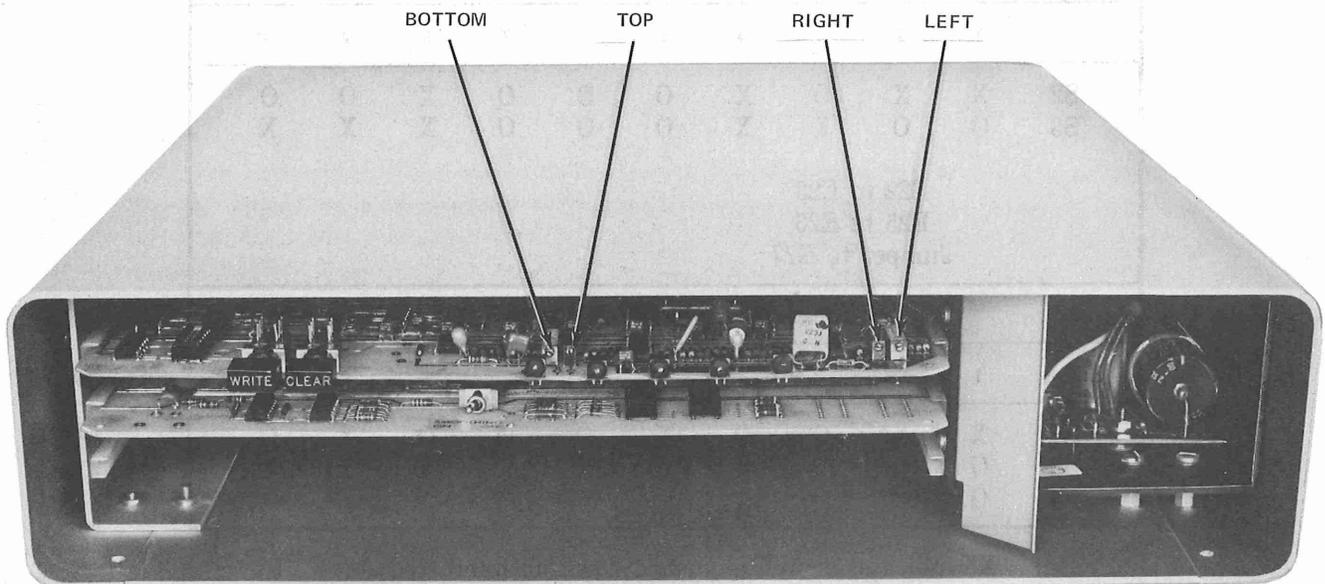

Fig. 62—▶KS-21889-L3 Memory Unit Adjustments◀
8.06 Periodic adjustments may be required to maintain display size. This consists of adjusting four potentiometers labelled BOTTOM, TOP, RIGHT, and LEFT behind front cover (Fig. 62). While viewing video monitor, adjust LEFT potentiometer, then adjust RIGHT potentiometer; adjust BOTTOM potentiometer, then TOP potentiometer. No other adjustments are required.